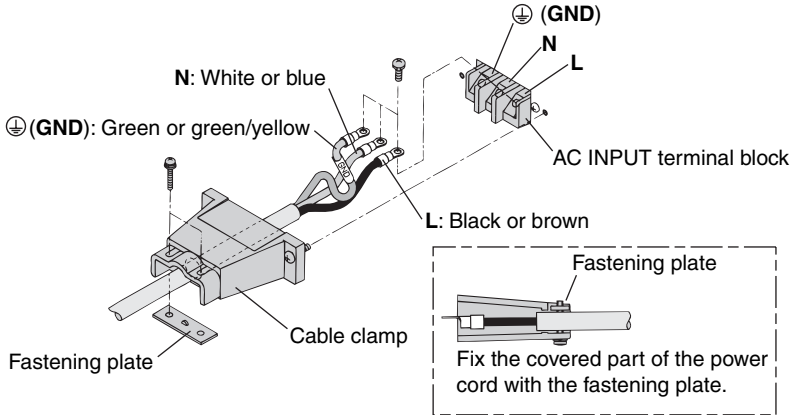

Fig. 2-6 Connecting the power cord
- 3 Connect the power cord provided to the AC INPUT terminal block on the rear panel as shown in Fig. 2-6.